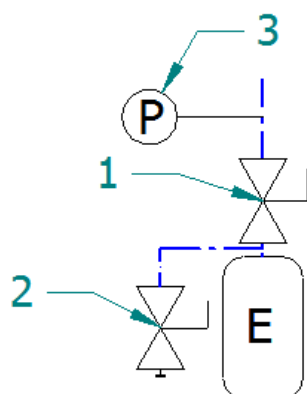

Figure 17: Connecting the expansion vessel
- close the ball valve **1** above the expansion tank (*see Figure 17*)